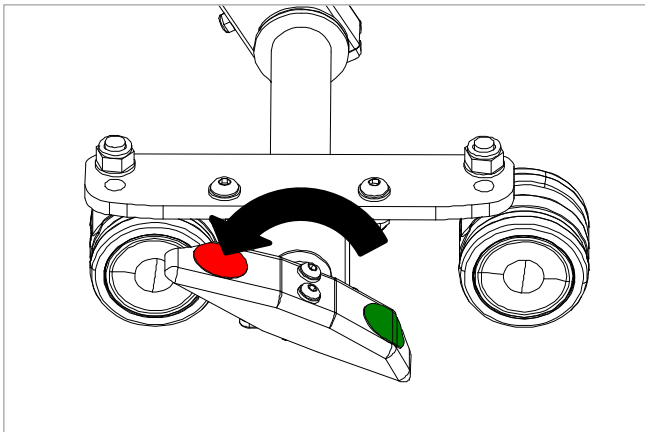

Figure 14.1
1. To lock the brake, press firmly downwards on the side of the pedal with the red label as shown in Figure 14.1 until it locates.